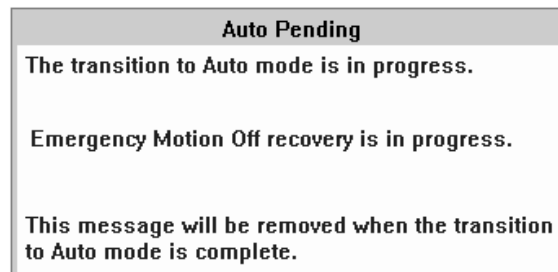

Figure 33. Auto Pending Pop-Up Window
6. The Auto LED on the operator panel flashes until the transition is complete and then stays lit. The Auto Pending pop-up window indicates that the library is changing from Pause mode to Auto mode ( Figure 33). **Emergency Motion Off recovery is in progress** will appear in the pop-up window for a short time during this transition. When emergency motion off recovery is complete, the pop-up window closes.